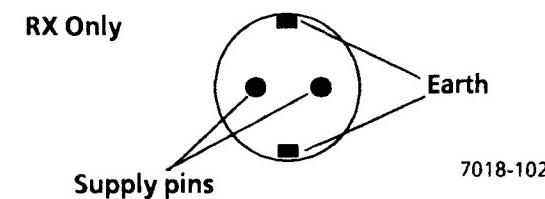

Figure 3. RX Europe Wall Outlet
- RX, Europe Only (Figure 3). Perform the following: